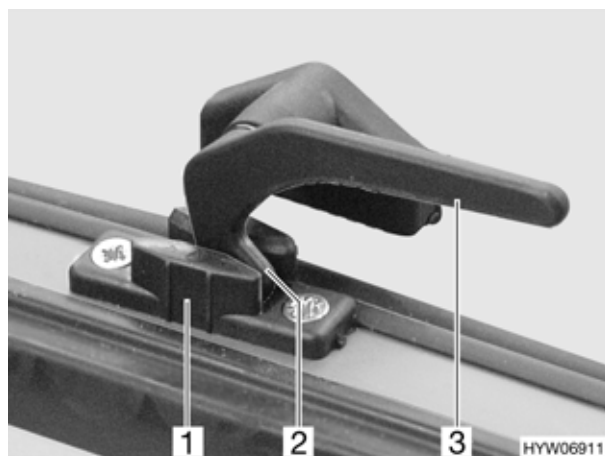

Fig. 40 Hinged window in the "continuous ventilation" position (variant 1)
- Continuous ventilation (Fig. 40)
- Open window handle (Fig. 40,3) of the hinged window.
- Return window handle into its original position. The locking catch (Fig. 40,2) has to be moved into the recess of window catch (Fig. 40,1).